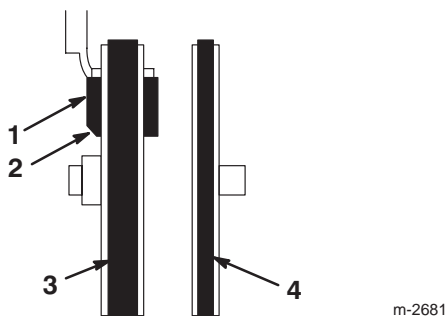

Figure 33
17. Ensure that the brake pad is properly installed on the brake arm. Position the angled cutoff on the brake pad as shown in Figure 33.
13. Ensure that the brake pad is properly installed on the brake arm. Position the angled cutoff on the brake pad as shown in Figure 33.